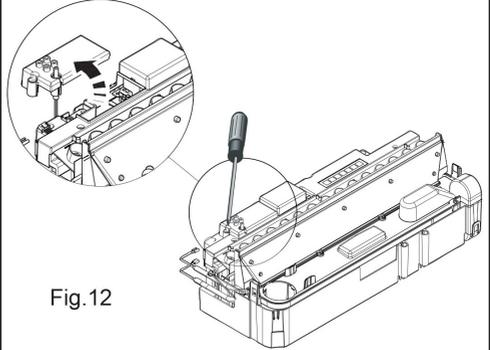

Fig.12
3. Lift off the access cover by removing the retaining screw (Fig 12).